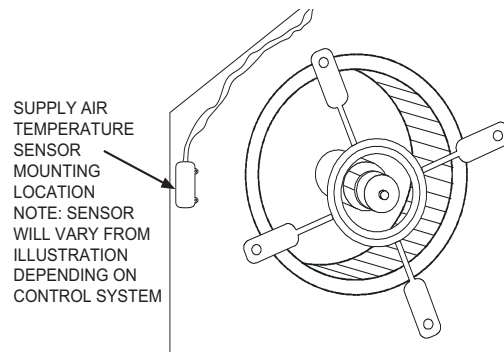

Fig. 12 — Supply Air Sensor Placement
13. Locate the HH79AH001 mixed (supply) air temperature sensor in the economizer hardware bag. A 2-wire SAT sensor harness with spade terminals is supplied with the sensor. Plug the harness into the top of the HH79AH001 sensor. Mount the sensor in the indoor fan section of the unit, see Fig. 12. Locate the orange and brown wires in the wire bundle in the indoor fan section. Connect these orange and brown wires to the 2-wire harness attached to the HH79AH001 sensor. Mixed air default setting is 53°F and can be adjusted from 38°F to 70°F.